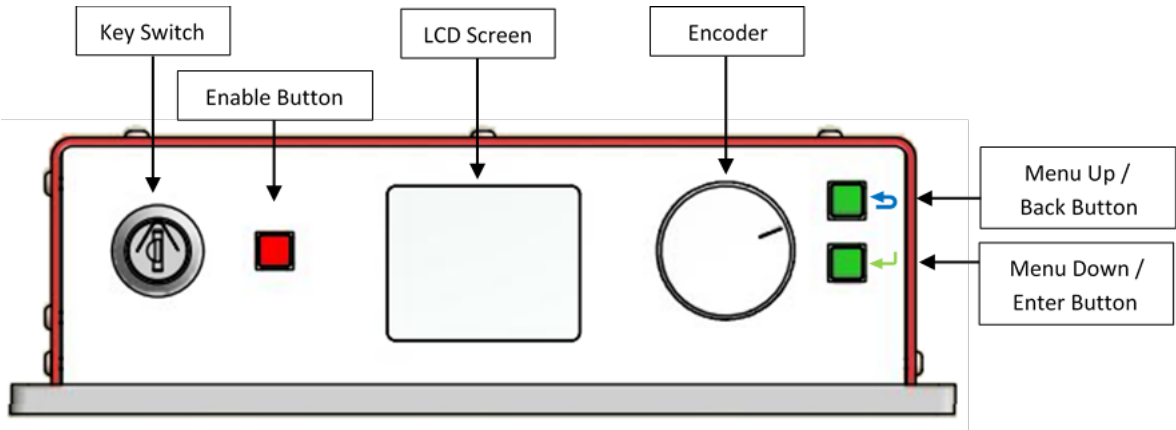

Figure 4-1
- 6 Using the Encoder and the Enter/Back buttons (see Figure 4.1) the operation current or power can be adjusted (see Section 5.3: Front Panel Controls).